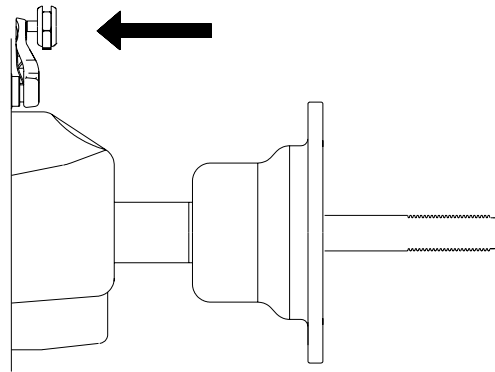

Figure 41
1. Make sure the SAPE arm is in the home position as shown in (Figure 41). **NOTE:** Weight tray must be installed.
5. Display will read “**H**” “**POS**” followed by a beep. Return the arm to the home position (Figure 41). The display will read “**CAL** **End**”.